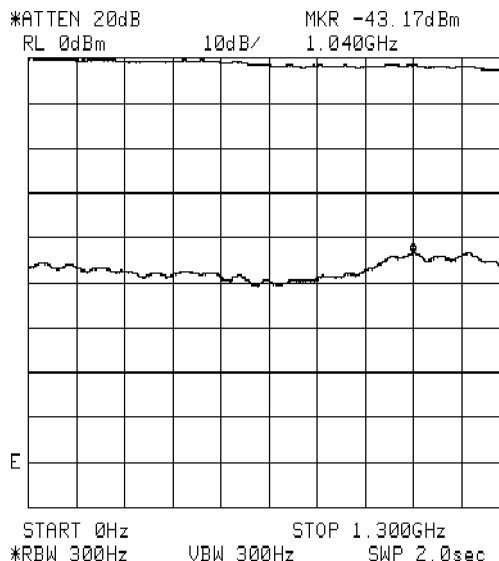

Figure 3-27. Swept-Mode TOI With Tracking Source Signals Spaced 2 MHz Apart
- View the spectrum analyzer display for the swept response of the lower TOI product. Refer to Figure 3-27 for an illustration of the display.